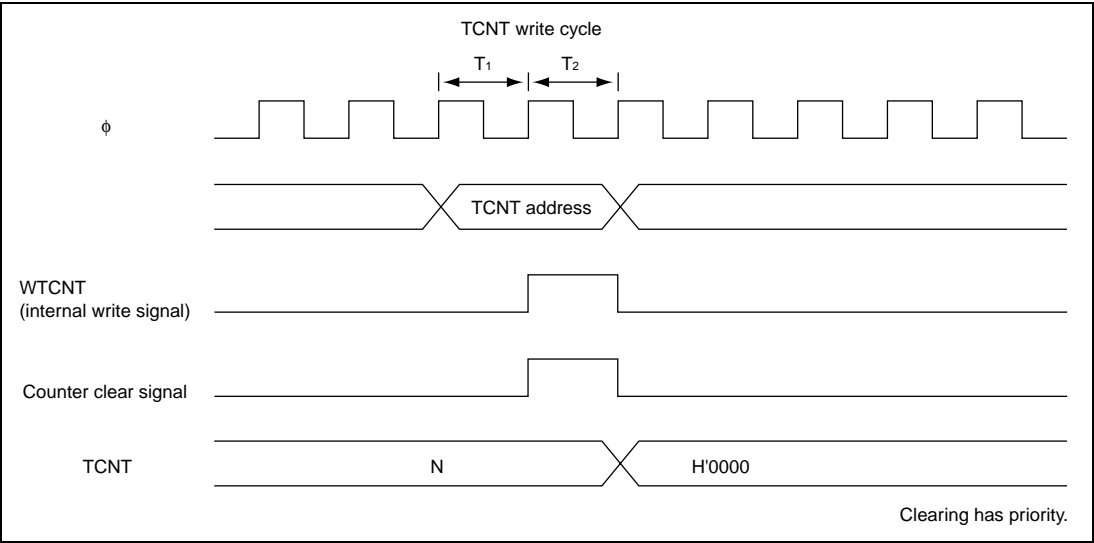

Figure 13.52 Contention between TCNT Write and Clear Operations
1. Contention between TCNT Write and Clear Operations: If a counter clear signal is generated in the T₂ state of a TCNT write cycle, TCNT clearing has priority and the TCNT write is not performed. Figure 13.52 shows the timing in this case.